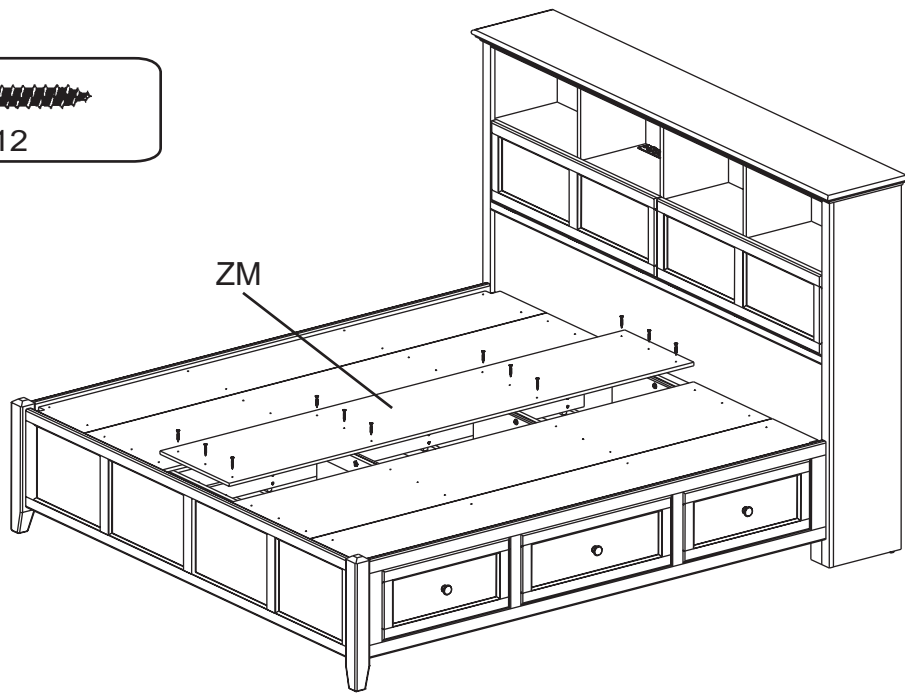

Fig. 14
14. Place the Center Deckboard (ZM) as shown in Fig.14 and secure it with twelve #8 x 1-1/4" Black Screws (E). If you need to readjust the center feet in the future, remove the center deckboard (ZM) to improve access, rotate the glides and then attach the center deckboard.